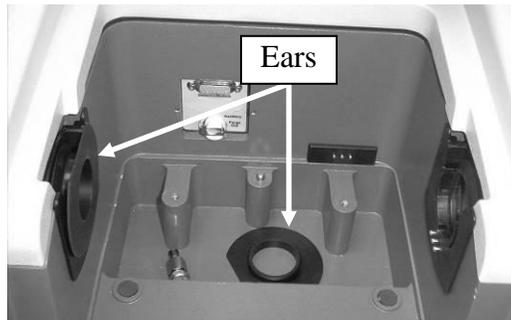

Figure 5: The accessory compartment with one ear inside and one ear not yet removed.
- 2.g. Remove the ears of the accessory from both holes, and place them in the bottom of the compartment, as shown in Figure 5.